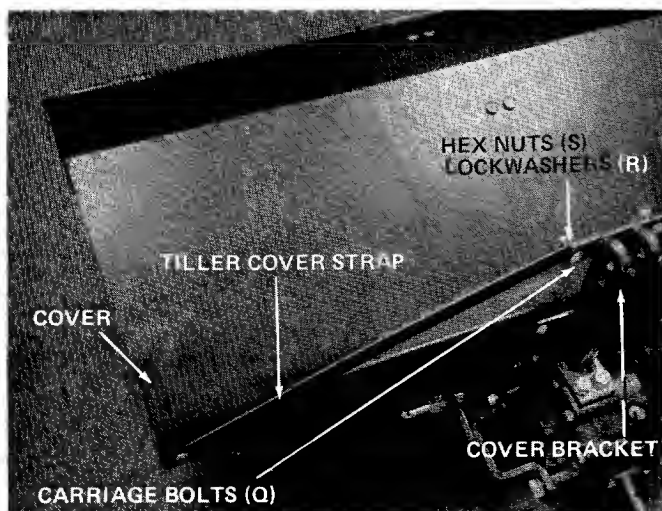

FIGURE 9.
9. Using the four remaining carriage bolts (Q), lockwashers (R) and hex nuts (S), assemble tiller cover straps to cover bracket and cover. See figure 9.